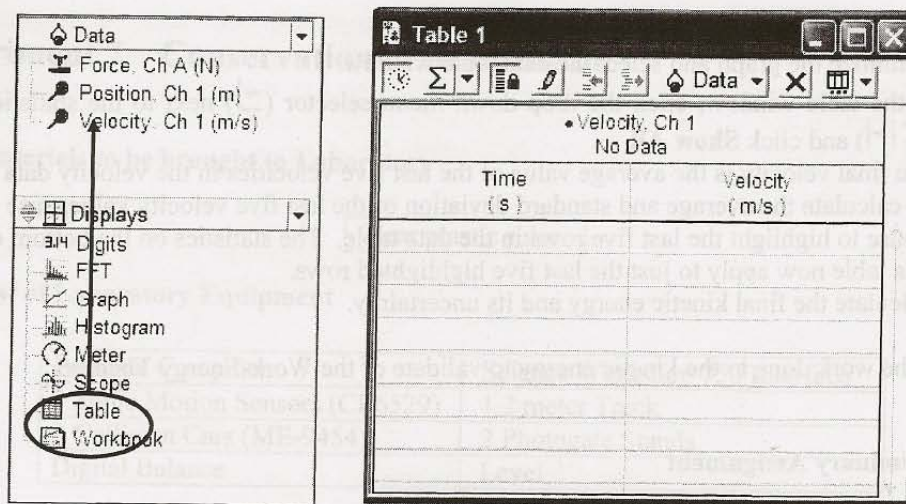

Figure 6.4-5: Drag the table icon to the velocity icon (left) to obtain a data table of velocity and time (right).
- Finally, drag & drop the **Table** icon from the **Displays** pane onto **Velocity, Ch 1 (m/s)** in the **Data** pane. This gives you a data table of time and velocity (See Figure 6.4-5).